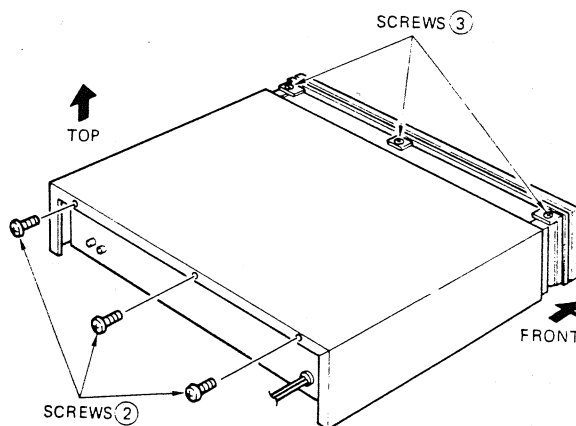

Fig. 2
- 2) Remove 3 screws (2) from the back panel. (Fig. 2)
- 1) Remove 3 screws (3) from the upper side of the front panel. (Fig. 2)
- 2) Remove 3 screws (3) from the lower side of the front panel. (Fig. 2)